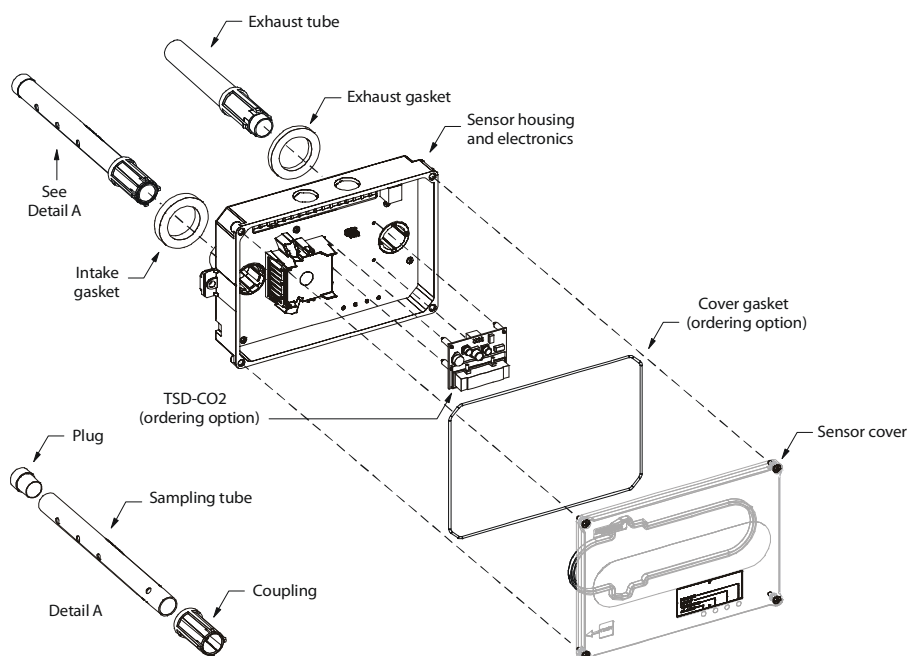

Fig. 9 - Smoke Sensor Exploded View
4. Remove plastic cover from sensor. (See Fig. 9.)